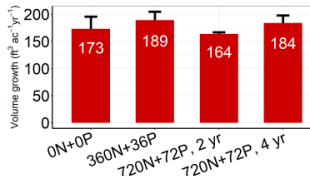
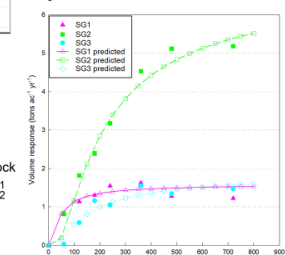

Figure 4: Last six years' volume growth
Figure 10: N X volume response
- While 0-8 year data shows strong treatment response (Figure 10), 2016-2022 residual growth effect was minimal (Figures 4, 5, & 6).
- 720N+72P height and DBH response similar to other CRIFF SG3 soils, with and ON+OP 360N+36P somewhat lower (Figure 10)
- Figure 4 is an aerial image showing the extent of the damage caused by the hurricane at the site